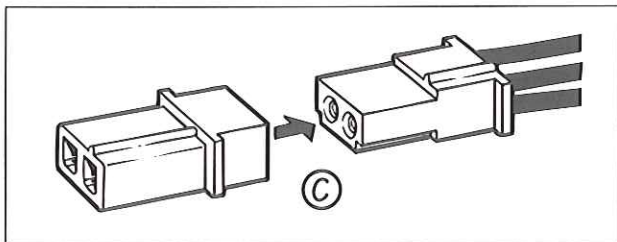

FIG. 12
4. Install the pin housing onto the connector at the end of the solenoid harness (C). Push the pin housing until it "clicks" (see Fig. 12).